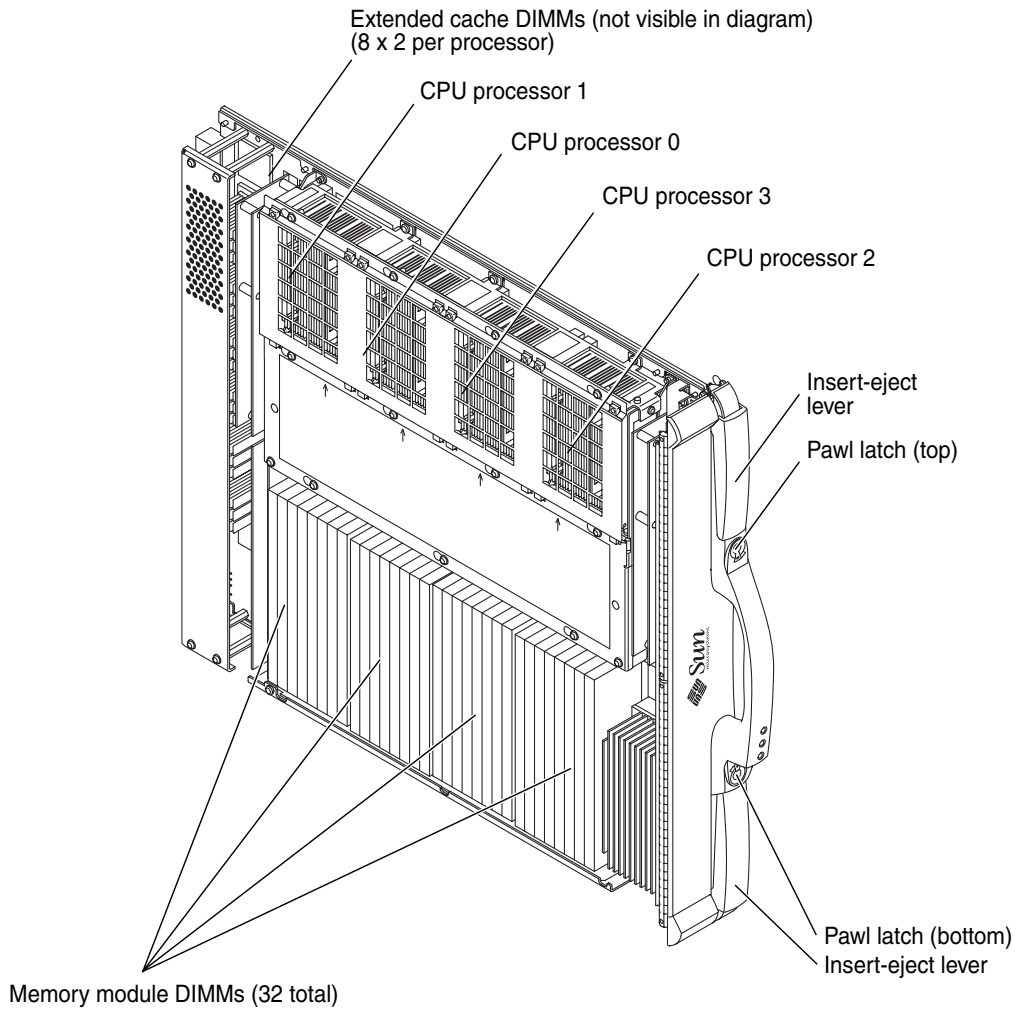

FIGURE 8-2 CPU Board Components
2. Insert a Phillips No. 1 screwdriver into top and bottom pawl latches turning counterclockwise to release the levers operating the two (2) board carrier insert-eject levers simultaneously (FIGURE 8-2).
See FIGURE 8-2 detailing the CPU board components.